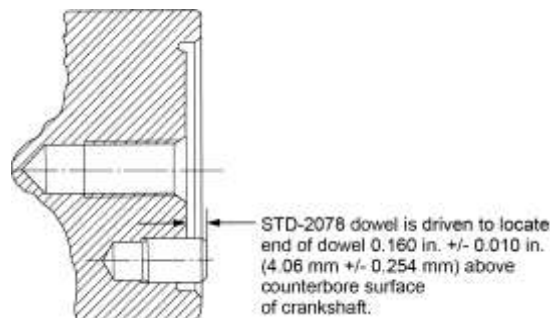

Figure 40
- (1) Use a center punch to mark the center of the exposed surface of the installed alignment dowel (Figure 40).
- (2) Mark a 1/8 in. drill bit to limit the depth of the drilled hole to 0.6 in. (15.14 mm).
- (3) Drill a 1/8 in. diameter hole through the center of the installed alignment dowel.
- (4) Fill the new drilled hole with oil.
- (5) Put a piece of 1/8 in. diameter drill rod in the drilled hole.
- (6) Use a hammer or mallet to hit the end of the drill rod.
- (7) Hydraulic pressure from the oil will push out the alignment dowel from the crankshaft.
- (8) Remove and discard the alignment dowel.
- (9) Examine the bottom of the alignment dowel hole to make sure that the drill bit did not make contact with the bottom of the hole. If the drill bit made contact with the bottom of the hole, send the crankshaft to the factory for evaluation.
- (10) Press the replacement alignment dowel into the alignment dowel hole to the required driven height. Refer to Figure 40 for the alignment dowel part number and the correct driven height.